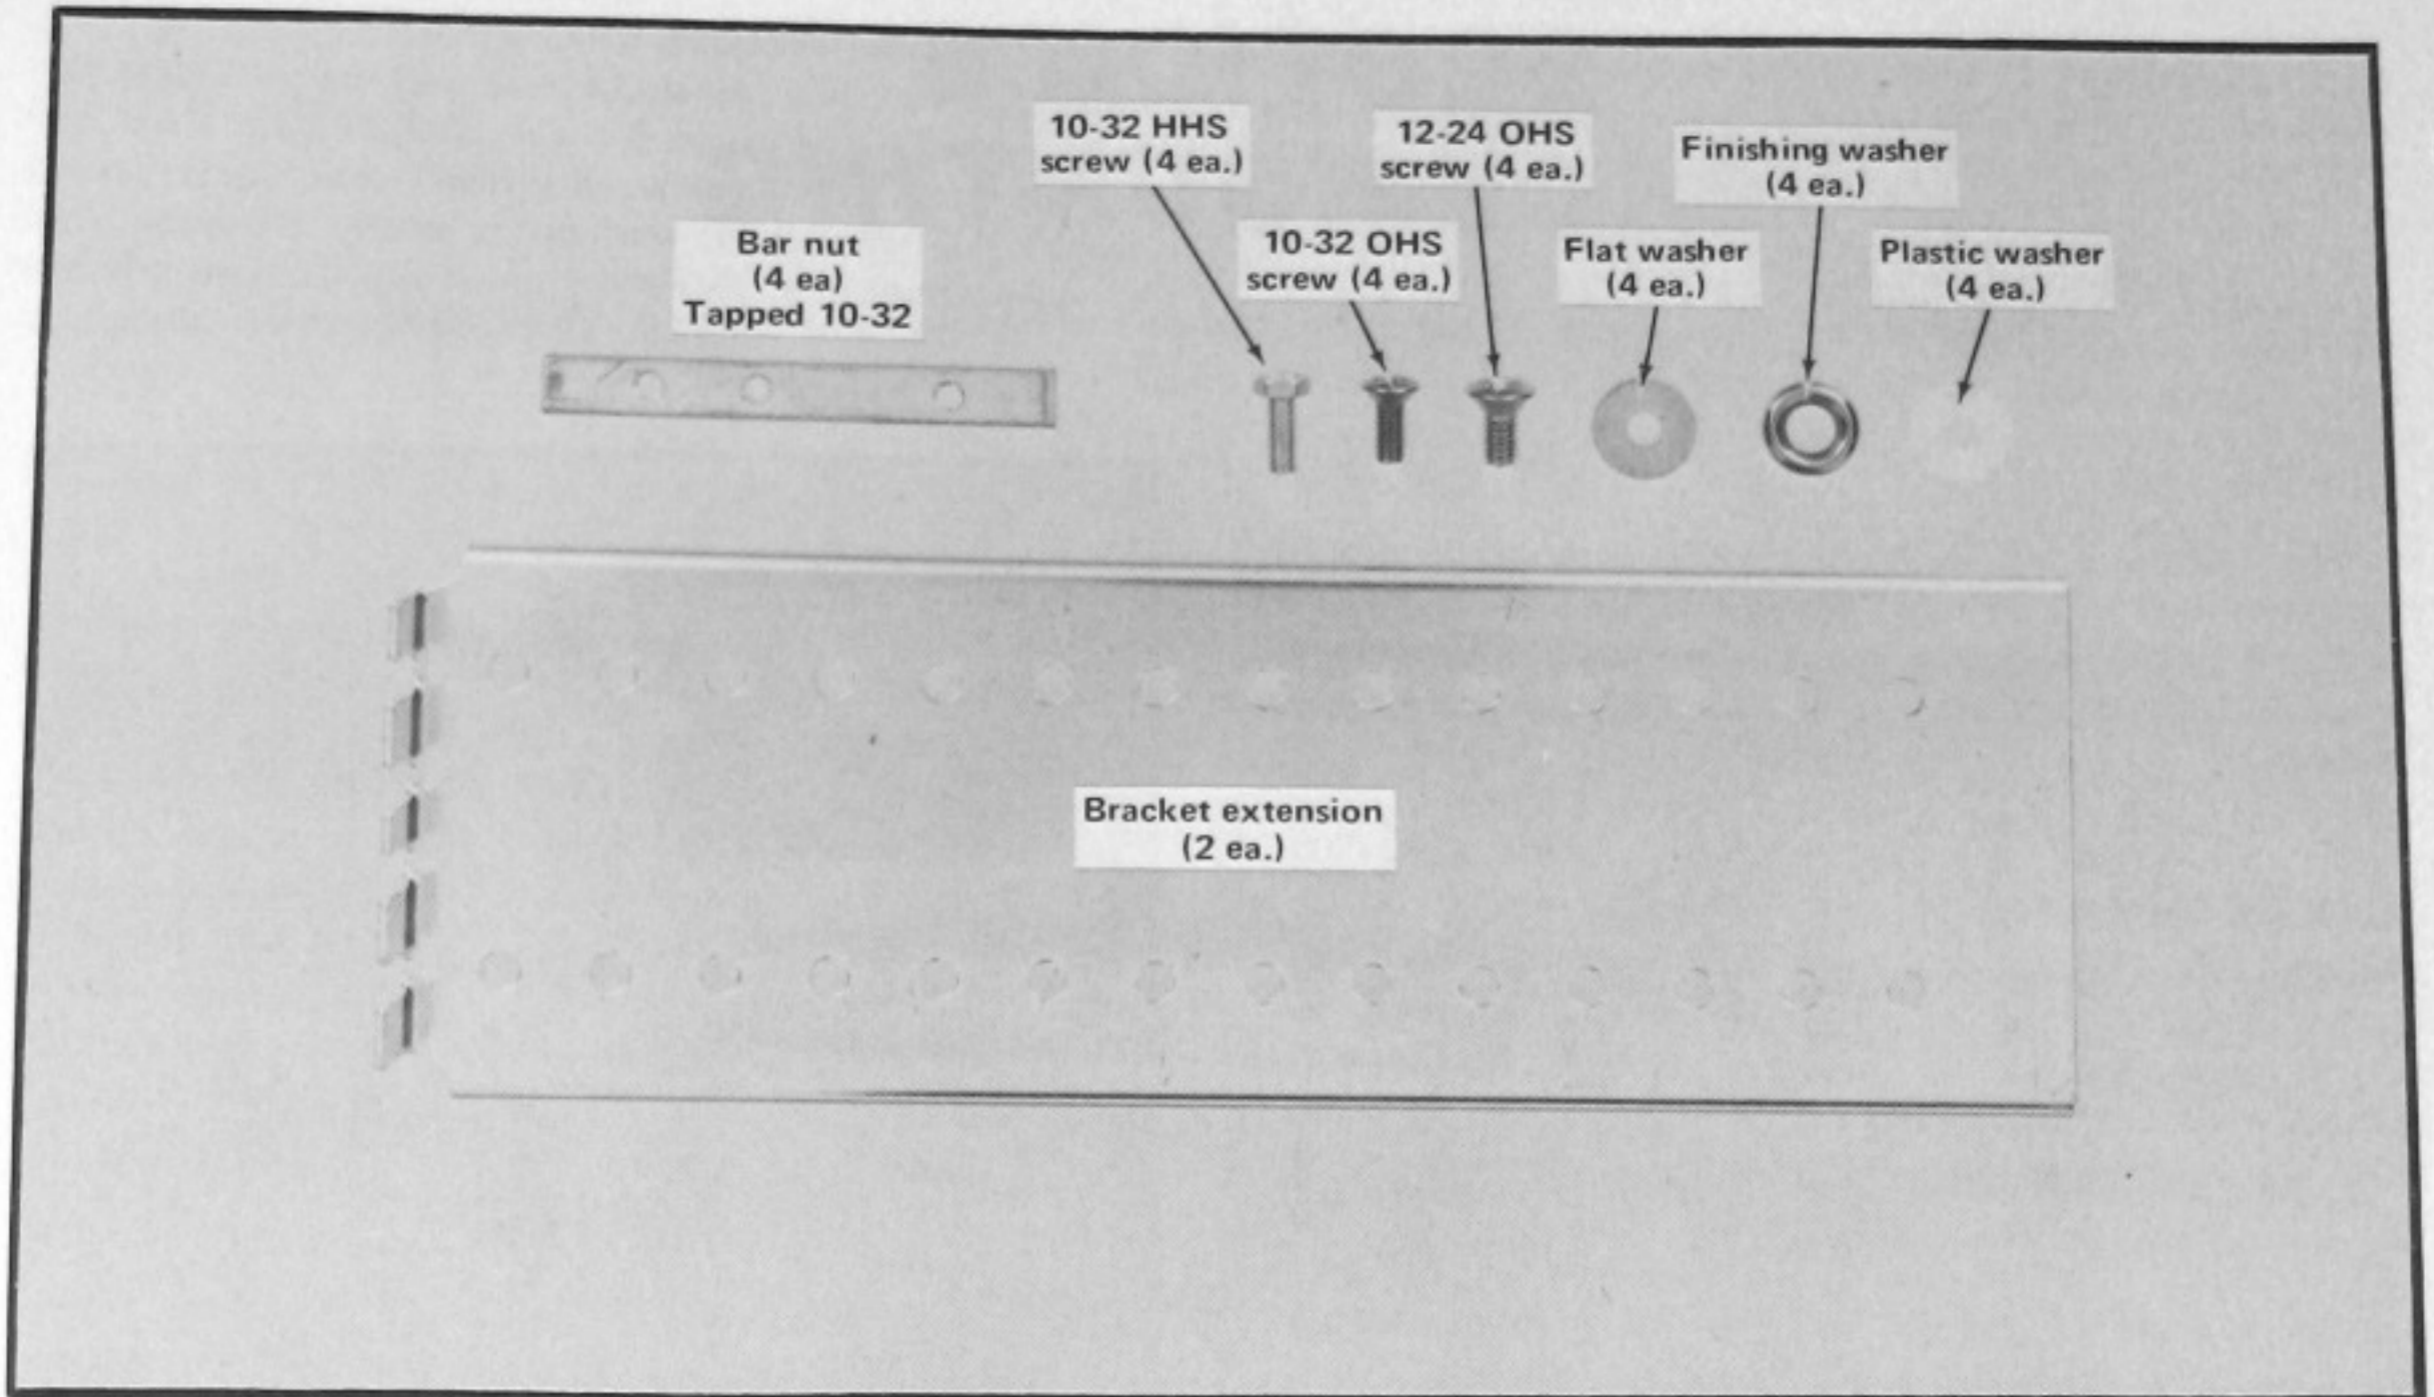

Fig. 6-2. Hardware needed to mount the instrument in the cabinet rack.
4. Secure the Rack Adapter Assembly to the front rails of the rack. Use the appropriate screws with a plastic washer and finishing washer on each screw from the hardware kit provided. See Figs. 6-2 and 6-3.